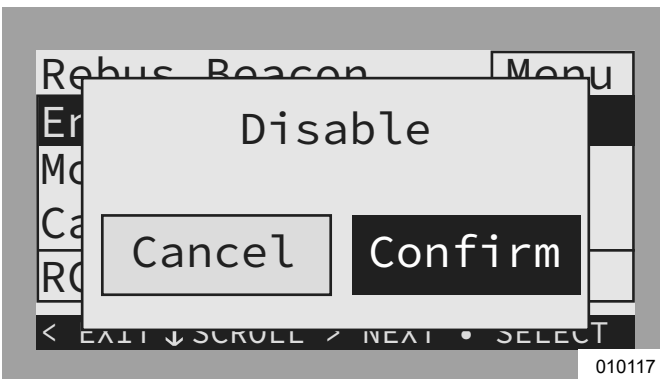

Figure 6-25. Disabling TOU Scheduler (2 of 3)
3. See Figure 6-25. Arrow right to Confirm and press the center button.